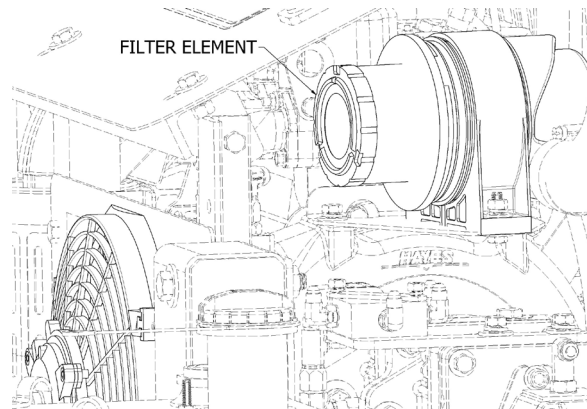

Figure 5.10 – Engine Air Filter Element
3. Pull the element from the housing. See Figure 5.10.